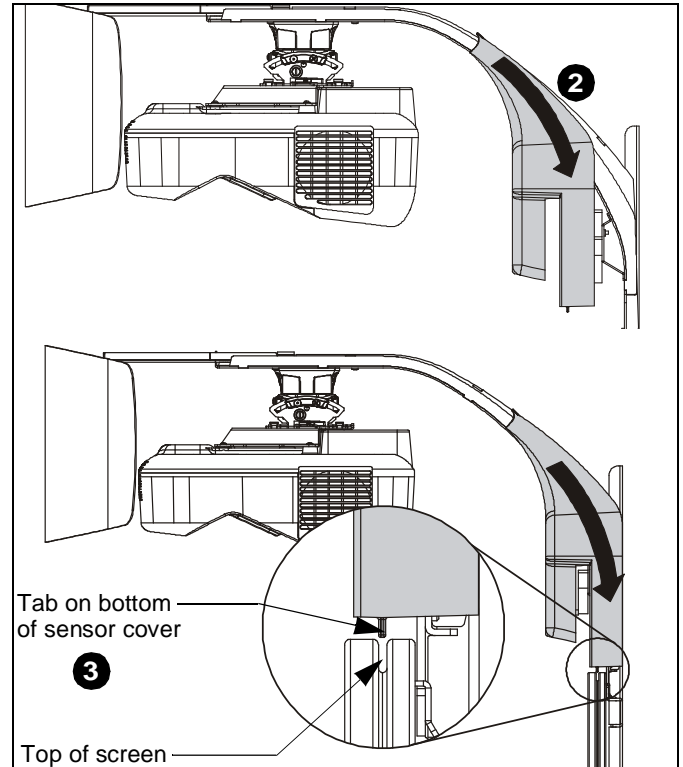

Figure 25
2. Hold sensor outer cover (U) under boom projector mount and begin sliding downward toward top of screen. (See Figure 25)
3. Continue sliding cover downward until tabs at bottom of cover slip into slot on top of screen. (See Figure 25)